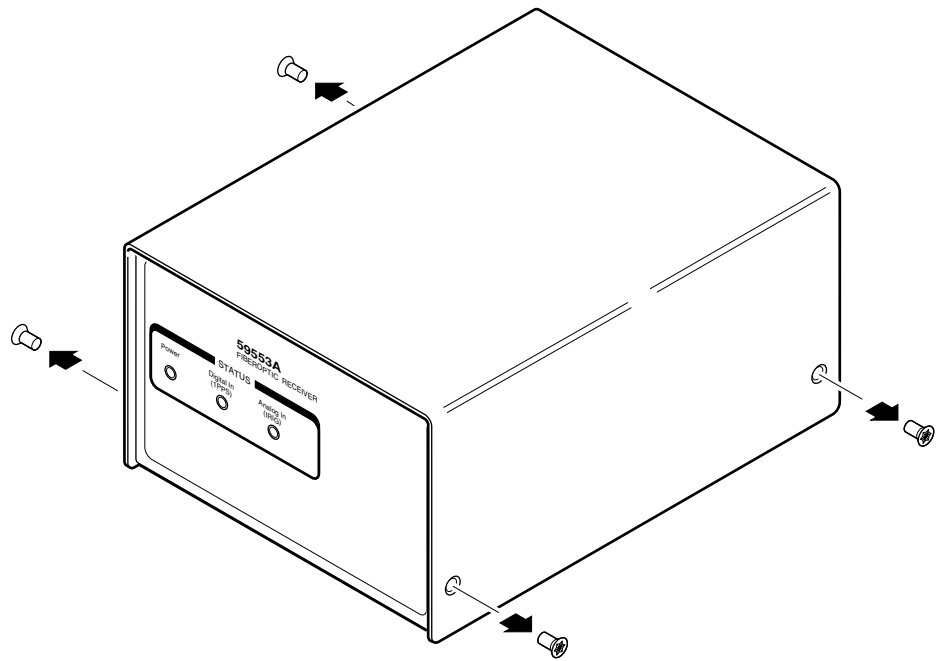

Figure 2-3. Removing Screws in the Cover (59553A)
- 2 Remove two screws on each side of the 59553A as shown in Figure 2-3 using the TORX 10 screwdriver.